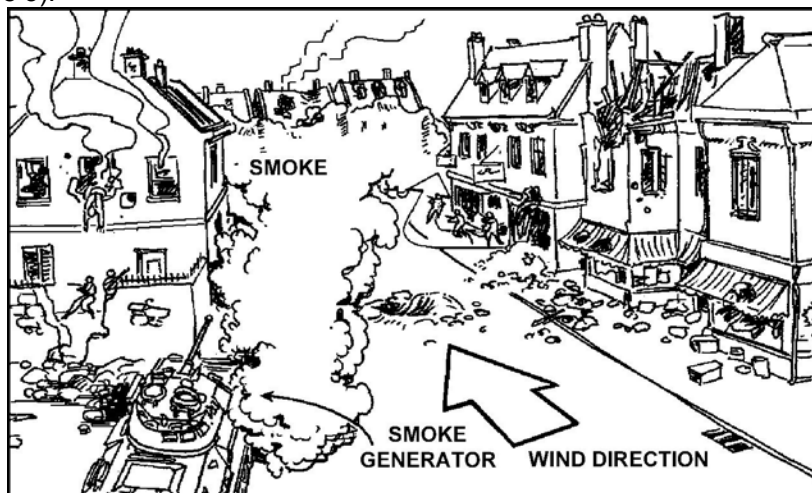

Figure 5. Smoke screens movement of dismount team.
5. Direct the vehicle teams to use their smoke generators to cover the movement of the dismount teams (Figure 5).